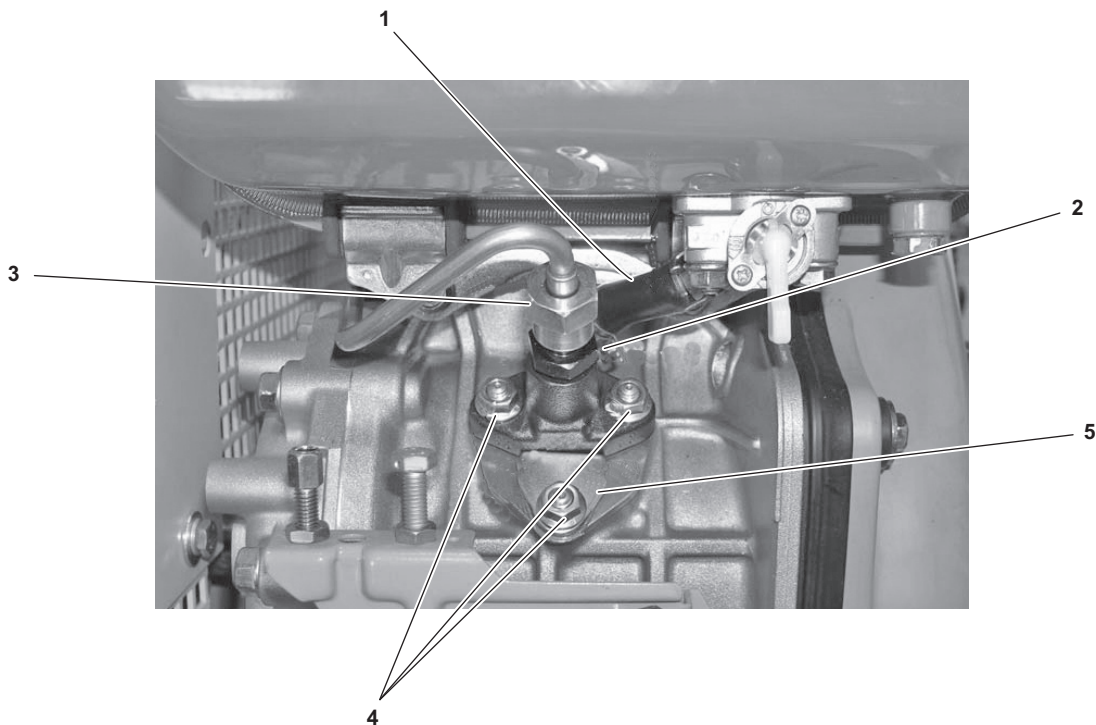
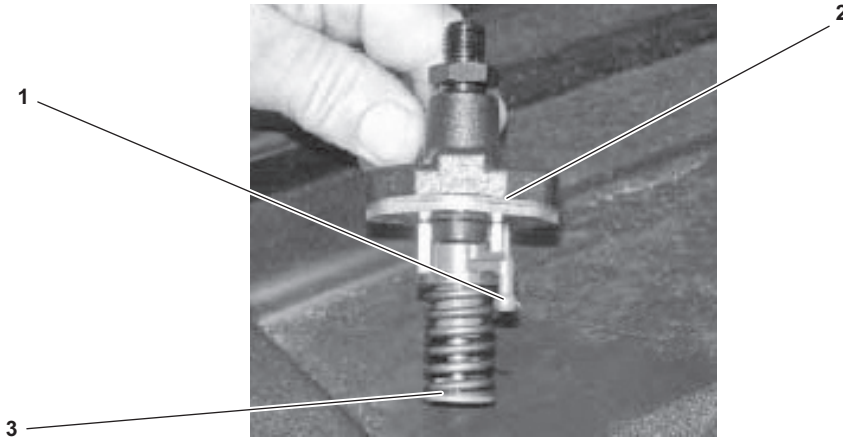
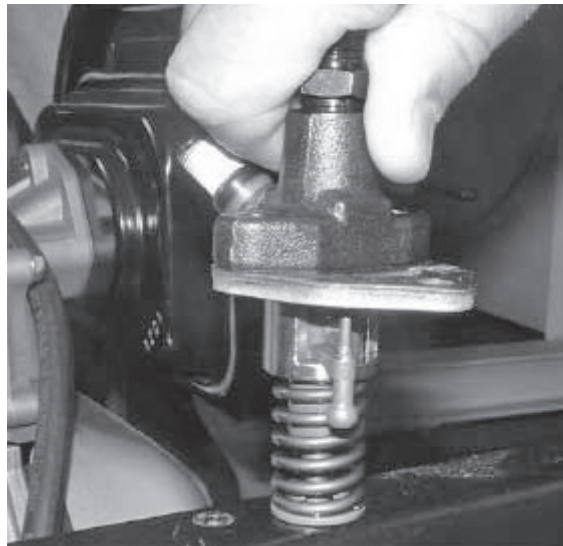
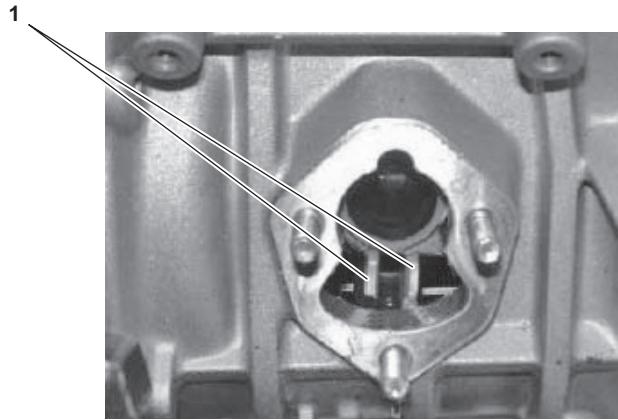

Figure 6-40. Removing Fuel Supply Line
Figure 6-41. Fuel Injector Valve in Open Position
Figure 6-42. Freeing Injector Pump Piston
Figure 6-43. Correct Placement of Shutoff Valve
- (1) Remove the low-pressure fuel supply line (figure 6-40, item 1) at the injector pump (figure 6-40, item 2).
- (2) Using a 11/16 inch wrench, remove (CCW) the rigid fuel line (figure 6-40, item 3) at the injector pump (figure 6-40, item 2).
- (3) Using a 3/8 inch socket with drive ratchet and 4 inch extension, remove (CCW) the three nuts (figure 6-40, item 4) on the injector pump (figure 40, item 2); on the bottom nut, also remove the cover plate (figure 6-40, item 5).
- (4) Remove the fuel injector pump (figure 6-40, item 2).
- (1) Ensure that the shutoff valve (figure 6-41, item 1) on the fuel injector pump (figure 6-41, item 2) is open by sliding it to the right.
- (2) Connect the rigid fuel supply line (figure 6-40, item 3) and the low-pressure fuel supply line (figure 6-40, item 1) to the injector pump (figure 6-41, item 2).
- (3) As fuel is flowing, free the piston by firmly pressing the injector pump spring (figure 6-41, item 3) on a flat, hard surface several times as shown in figure 6-42.
- (4) Remove the rigid fuel supply line (figure 6-40, item 3) and the low-pressure fuel supply line (figure 6-40, item 1) from the injector pump (figure 6-41, item 2).
- (1) Install the injector pump (figure 6-41, item 2) into the engine, ensuring that the shutoff valve is positioned between the guides (figure 6-43, item 1).
- (2) Using a 3/8 inch socket with a drive ratchet and 4 inch extension, install the two upper nuts (figure 6-40, item 4) and tighten, turning CW until snug.
- (4) Using a 3/8 inch socket with a drive ratchet and 4 inch extension, install the bottom nut (figure 6-40, item 4) and the cover plate (figure 6-40, item 5), turning the nut CW until snug.
- (5) Using a 11/16 inch wrench, connect the rigid fuel line (figure 6-40, item 3) to the injector pump (figure 6-40, item 2), turning CW until snug.
- (6) Connect the low-pressure fuel supply line (figure 6-40, item 1) to the injector pump (figure 6-40, item 2).